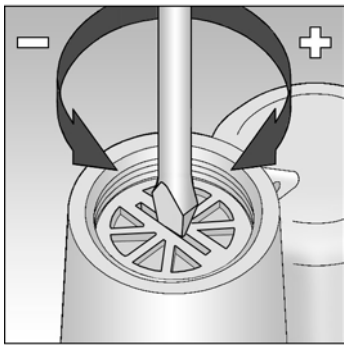

Fig. 5
4. Turn anticlockwise (-) to reduce loading on regulator spring to minimum. See Fig. 5 (If no safety devices are fitted go to instruction 12).